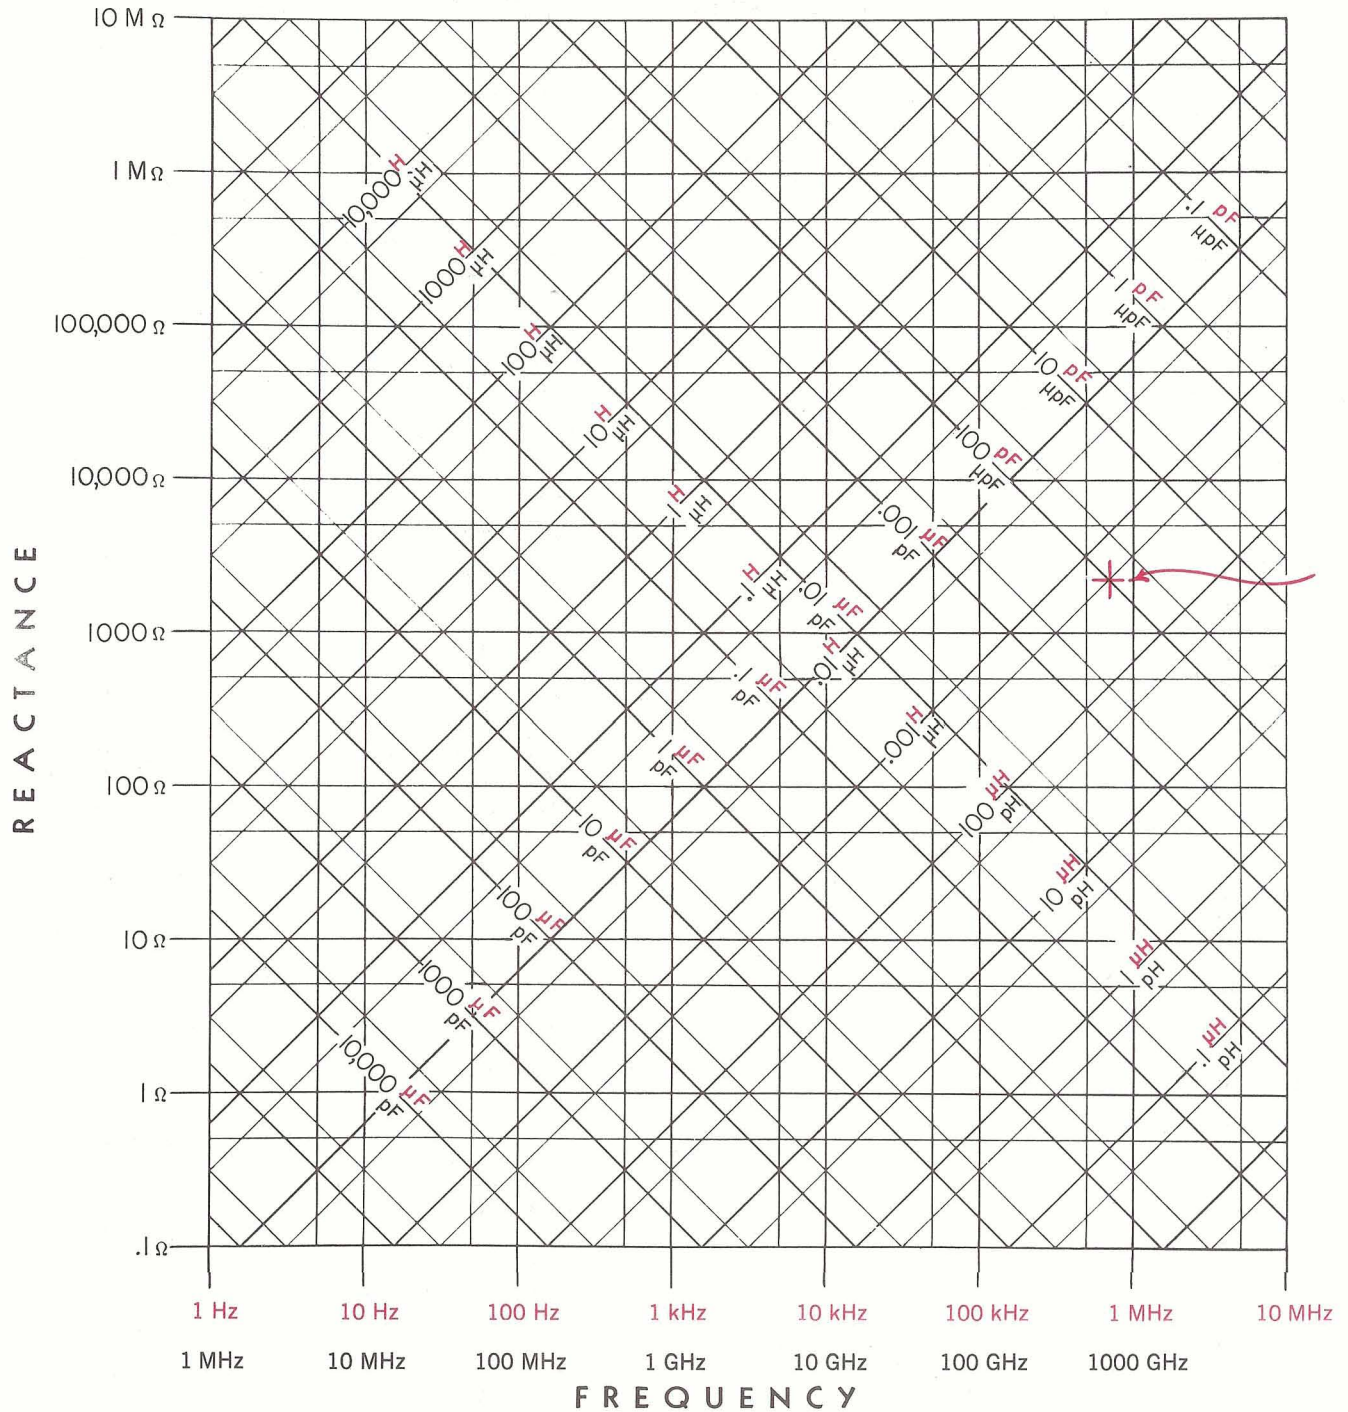
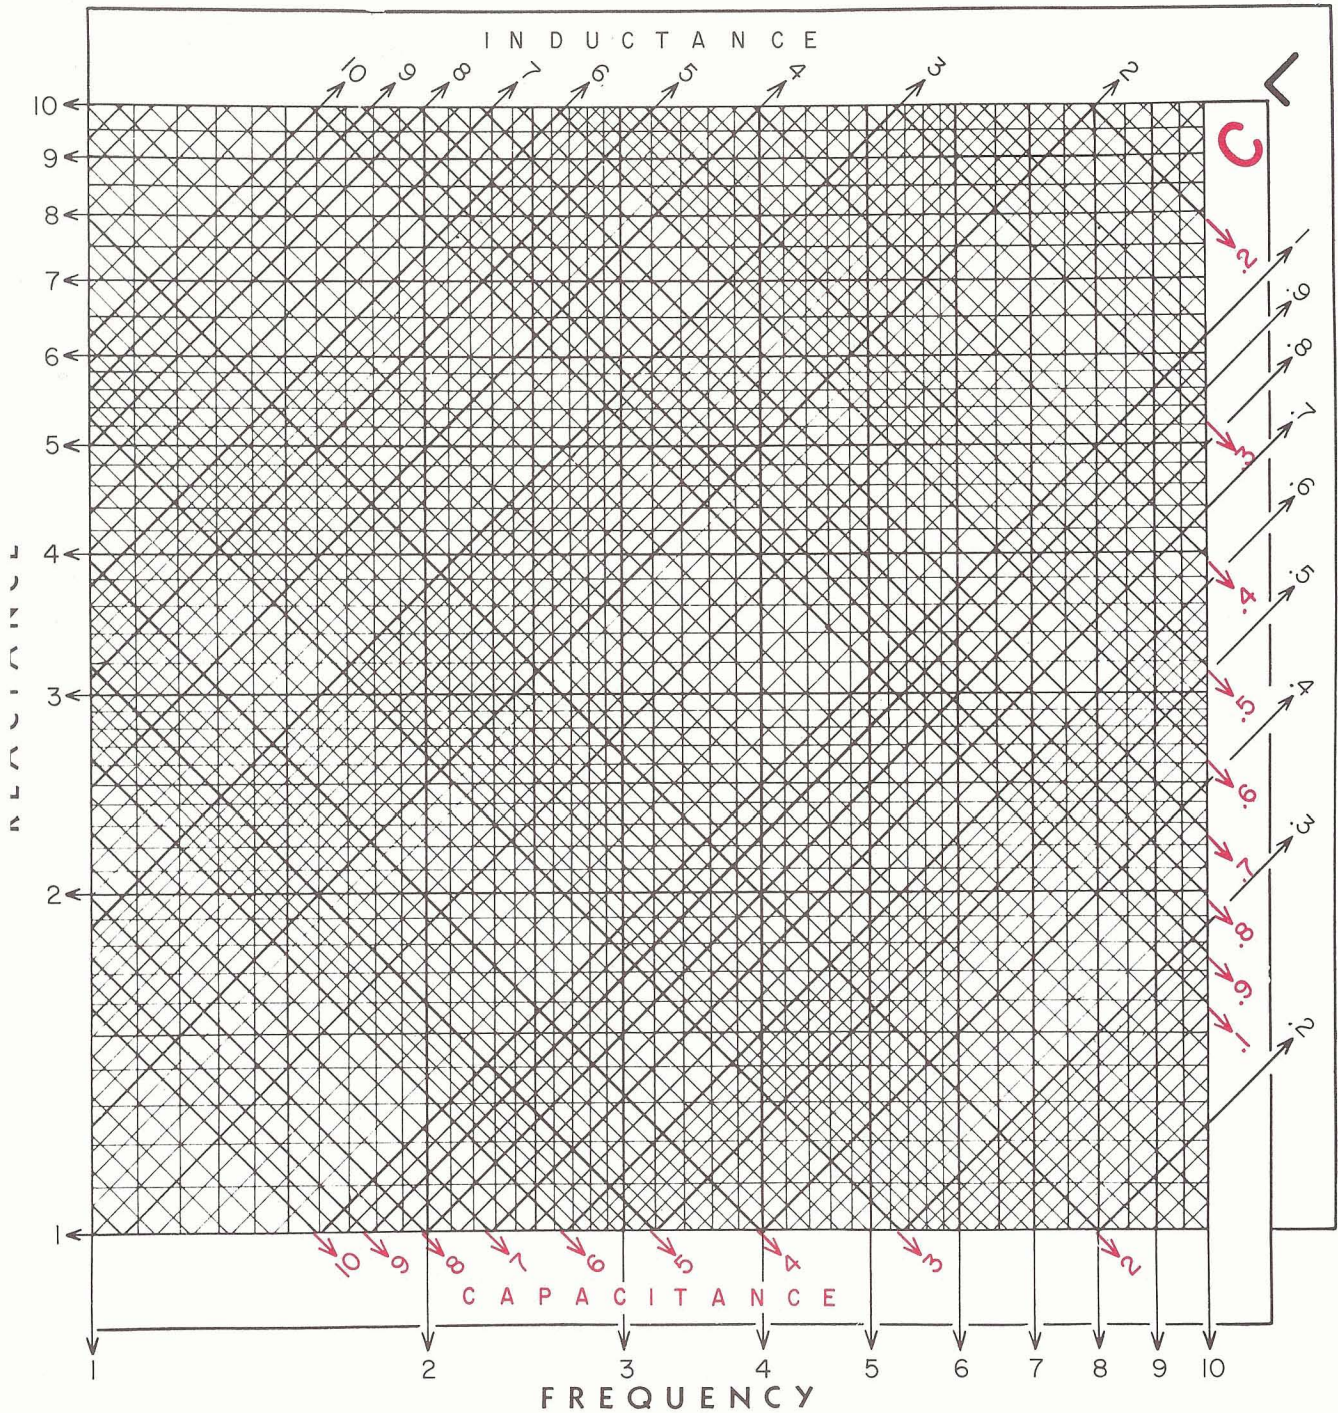

FIGURE 1
FIGURE 2
Figure 1 is the complete chart, used for rough calculations. Figure 2, which is a single decade of Figure 1 enlarged approximately 7 times, is used where two or three significant figures are to be determined.
Always obtain approximate value from Figure 1 before using Figure 2
**Example:** The point indicated in Figure 1 corresponds to a frequency of about 700 kHz and an inductance of 500  $\mu\text{H}$ , or a capacitance of 100 pF, giving in either case a reactance of about 2000 ohms. The resonant frequency of a circuit containing these values of inductance and capacitance is, of course, 700 kHz, approximately.
### USE OF FIGURE 2
Figure 2 gives additional precision but does not place the decimal point, which must be located from a preliminary
entry on Figure 1. Since the chart necessarily requires two logarithmic decades for inductance and capacitance for every single decade of frequency and reactance, unless the correct decade for L and C is chosen, the calculated values of reactance and frequency will be in error by a factor of 3.16. In Figure 2, the capacitance scale is red; inductance scale is black.